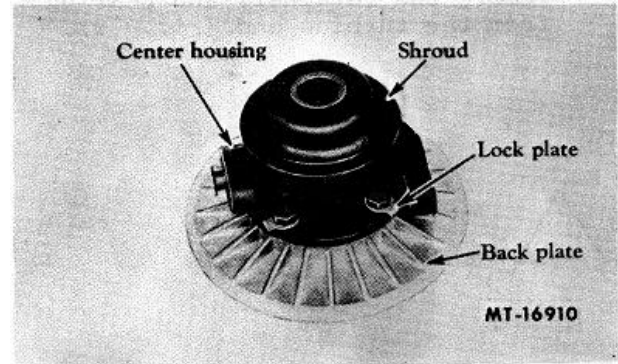

Fig. 17 Center Housing Assembly
10. Straighten the tabs on the lock plates and loosen the capscrews securing the center housing to the back plate (Fig. 17). Do not remove the capscrews in this position.